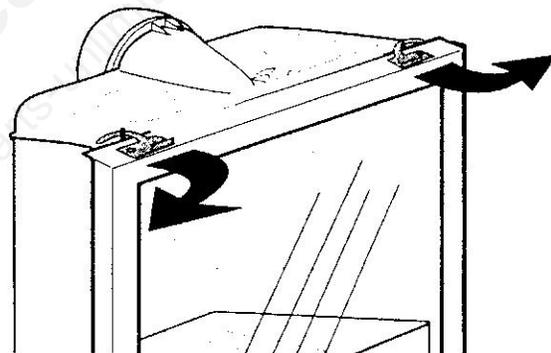

Figure 5-2. Release the latches to release the glass frame.
3. Pivot the two frame latches to disengage the retainer bolts at the top corners of the glass frame. Fig. 5-2. Carefully remove the glass and frame assembly and place it out of the way on a flat, padded surface such as a counter protected by a towel.